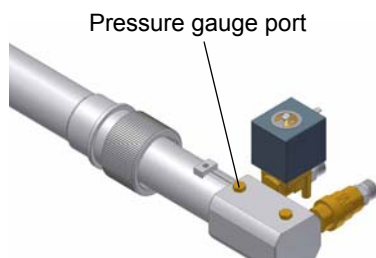

Fig. 18
- 9 the nozzle supply pressure is already factory-set and must not be changed. Only if necessary, adjust the supply pressure as follows (see related paragraph); insert a pressure gauge into the port shown on Fig. 18 and act on the pump adjusting screw **VR** (see Fig. 17 and page 21) as to get the nozzle pressure at 20 bar or 25 bar (according to the nozzle model provided: Bergonzo or Fluidics nozzles - see page 32-33).